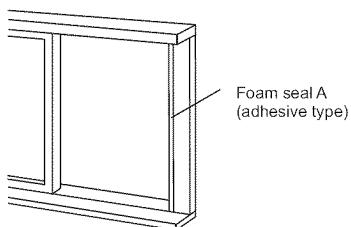

Fig.14
1. Cut the foam seal(adhesive type) to the proper length and attach it to the window frame. Shown as in Fig.14.